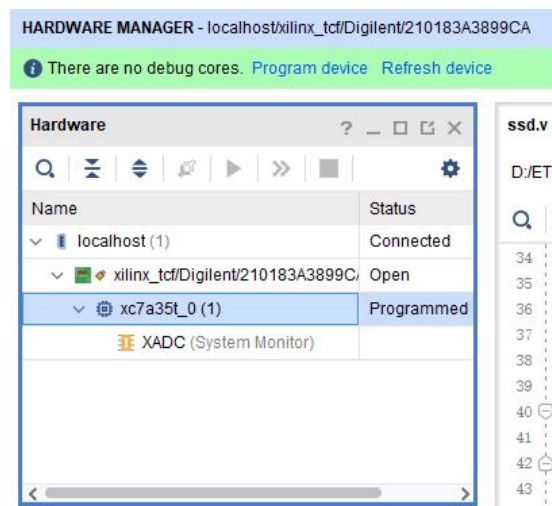

Figure 13: Hardware Manager Pane with Connected Target Device
- 6.6 The Hardware Manager Window will open automatically. You can find your device listed in the *Hardware Window* as shown in **Figure 13**.